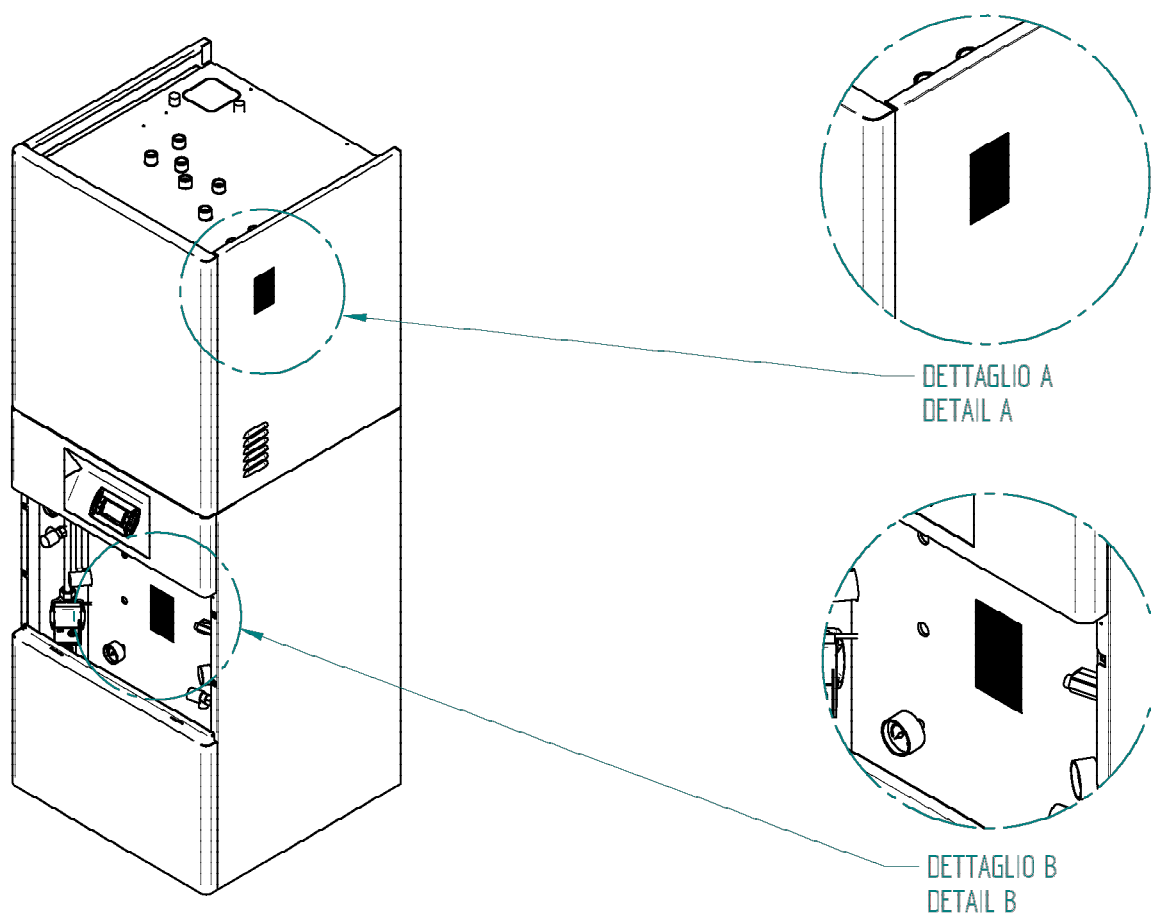

Fig.1
1. Targhetta Esterna (Dettaglio A Fig1)
2. Targhetta Interna (Dettaglio B Fig1)
1. External plate (Detail A Fig1)
2. Inner plate (Detail B Fig1)